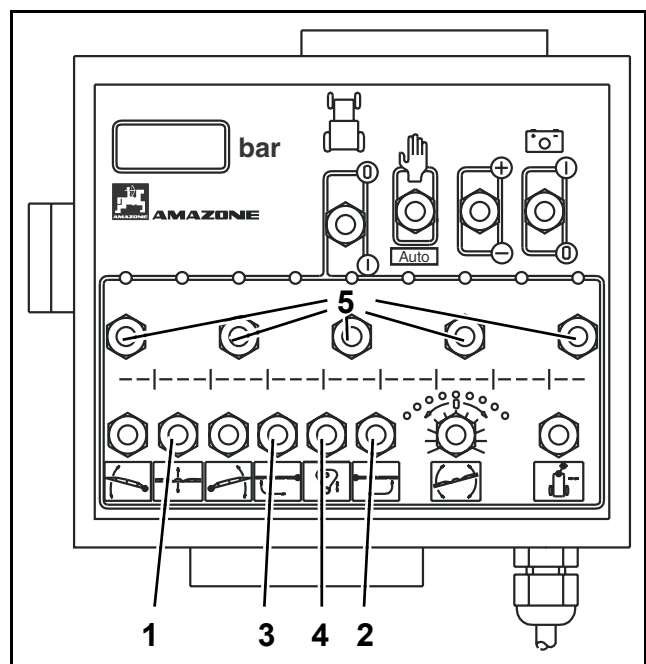

Fig. 88
- Actuate key (Fig. 88/4) to lock the swing compensation.
- Actuate key (Fig. 88/1) and set the spraying height of the boom via the height adjustment.
- Actuate keys (Fig. 88/2 or Fig. 88/3) and fold in the right hand or left hand boom as desired.
- Switch off the part sections of the folded in boom segments via the relevant part section keys (Fig. 88/5).
- Actuate key (Fig. 88/4) to unlock the swing compensation.